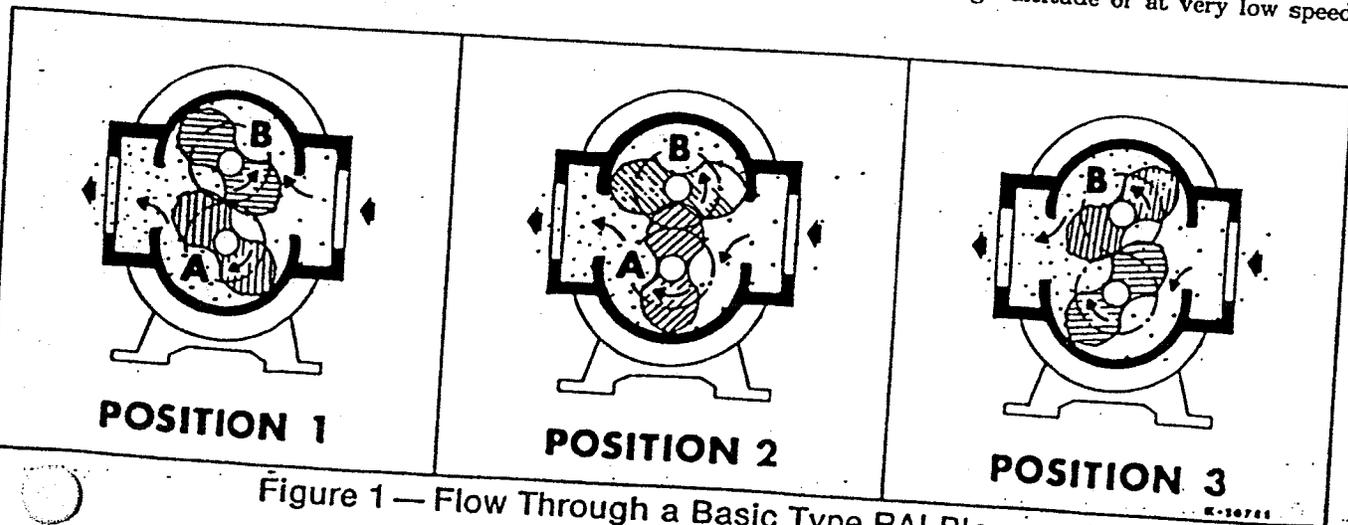

Figure 1 — Flow Through a Basic Type RAI Blower
Operation of the familiar basic rotary lobe blower is illustrated in FIGURE 1, where air flow is right to left from inlet to discharge with the bottom impeller rotating clockwise. In Position 1 it is delivering a known volume (A) to the discharge, while space (B) between the upper impeller and cylinder wall is being filled. Counterclockwise rotation of this impeller then traps equal volume (B) in Position 2, and further rotation delivers it to the discharge in Position 3. At the same time, another similar one is forming under the lower impeller, and will be discharged when rotation reaches Position 1 again.